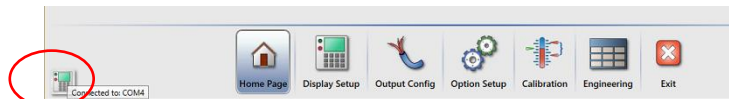

Figure 5.11: Toolbar Showing Connection Indicator
- A small ViscoSite transmitter icon appears in the bottom left corner of the Home screen when the software is connected to the transmitter. See Figure 5.11.